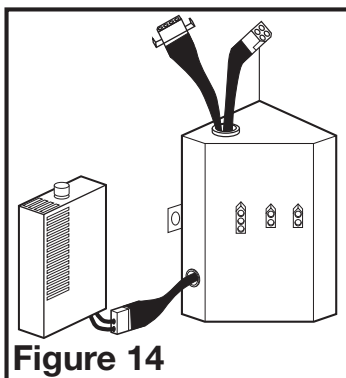

Figure 14
- 3d. **MOTION AND HUMIDITY SENSING MODELS:** Plug the fan's 2 pin and 3 pin quick connect motor cords into the corresponding receptacle located on the wire compartment cover. Connect the two pin connector from the humidistat compartment to the two pin connector from the side of the wire compartment cover. These cords will only fit one way into the receptacles (**Figure 14**).